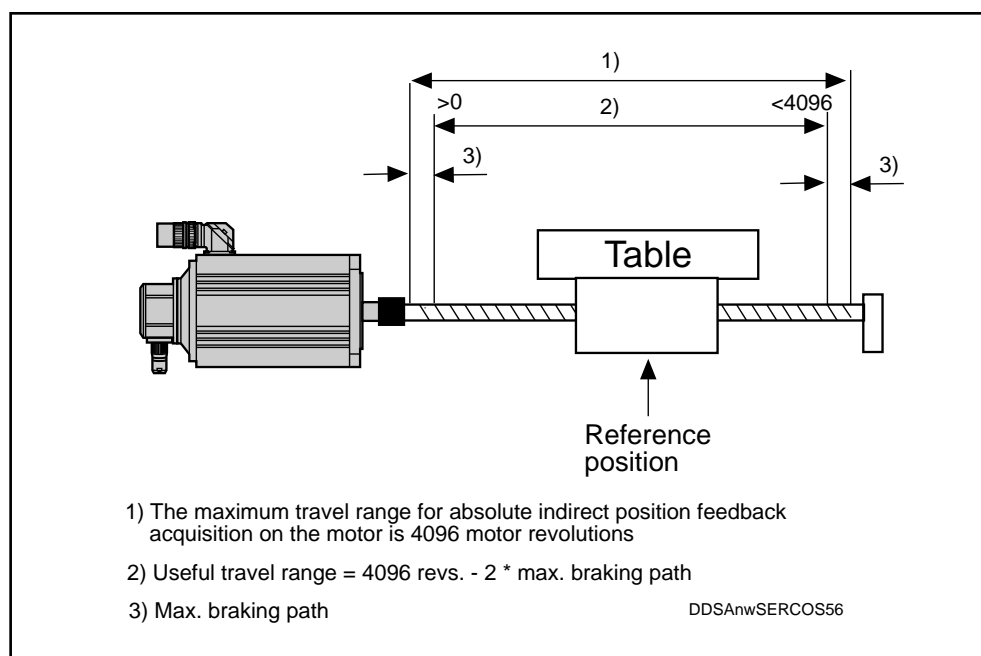

Fig. 7.45: Example for setting the reference (homing) point in a digital servo motor with multiturn encoder option.
1. Use the manual jog mode to move the axis to a specific (already measured) reference position. (The jog function can be initiated via the NC control unit or the PC SERCOS interface.) Fig. 7.45 shows an example with the reference position located at mid traversing stroke.